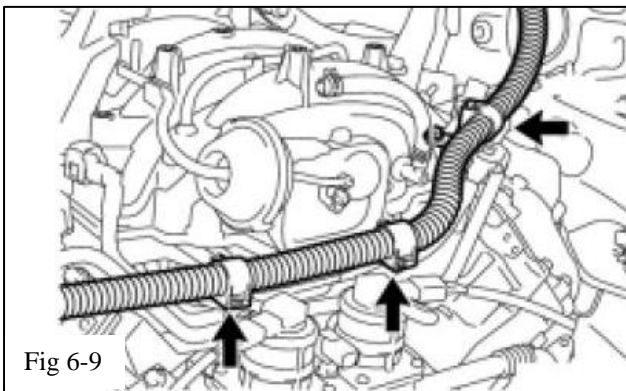

Fig 6-9
- (j) Disconnect the 3 wire clamps from the 3 wire harness brackets (Fig 6-9).